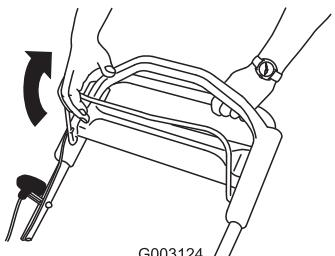

Figure 15
- Pull the blade-control bar to the handle (Figure 15).